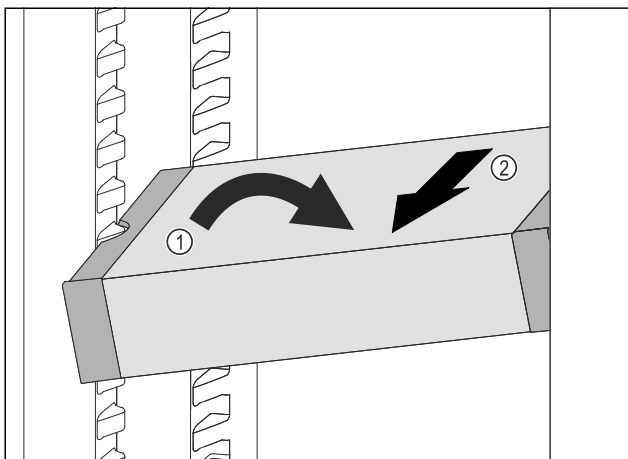

Fig. 97
- Set VarioSafe in refrigerator compartment at an angle. Fig. 97 (1)
- Take VarioSafe out to the front. Fig. 97 (2)